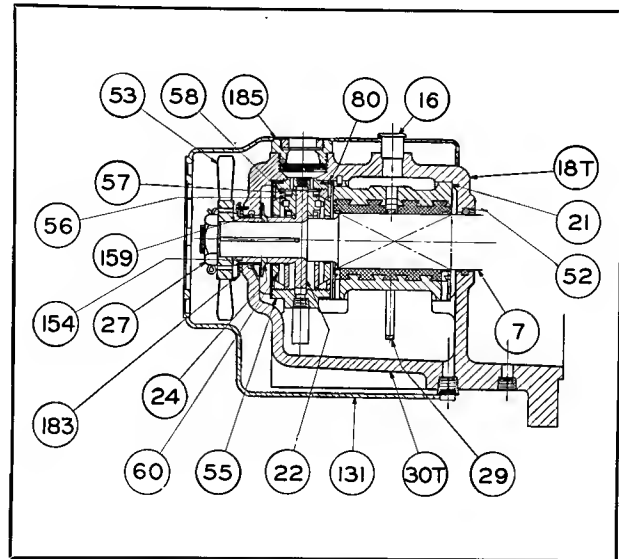

Fig. 16 — Kingsbury type thrust bearing.
B. KINGSBURY TYPE THRUST BEARINGS (Fig. 16)